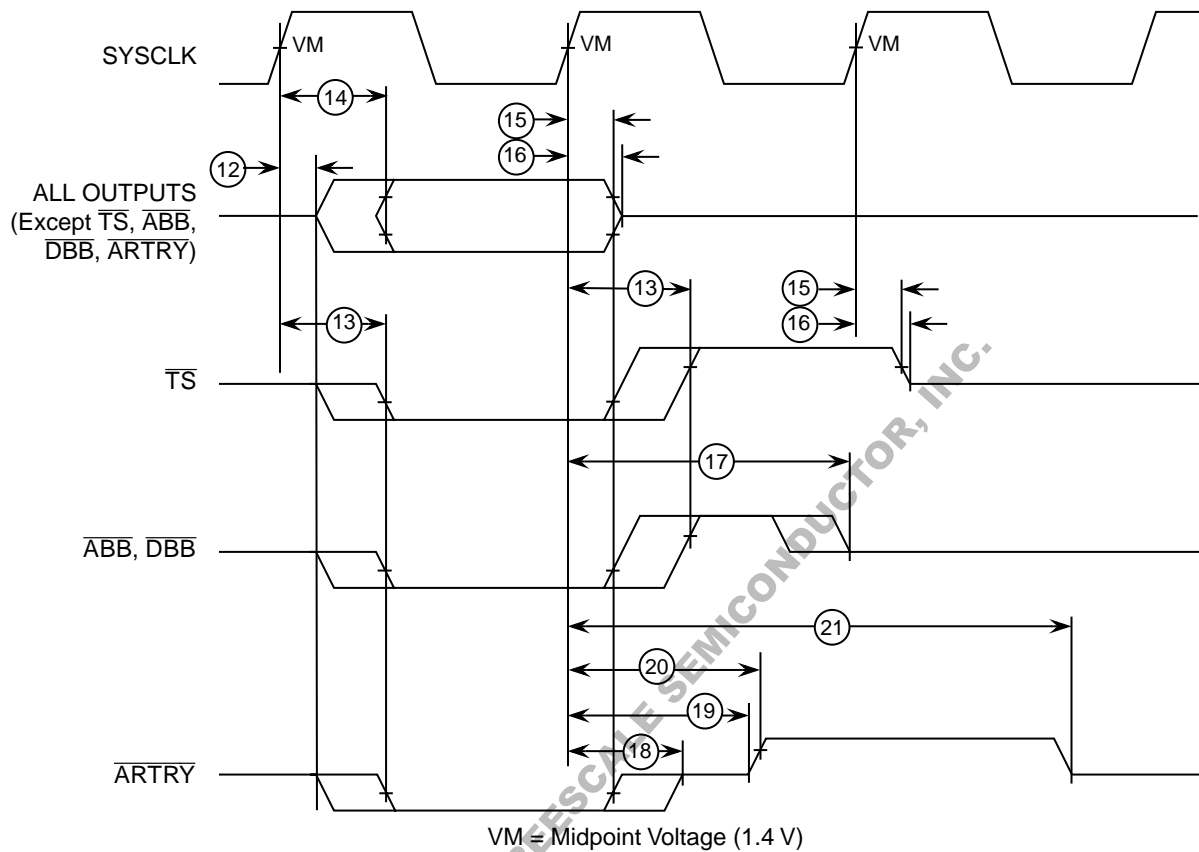

Figure 4. Output Timing Diagram
Table 9 provides the output AC timing specifications for the PID7t-603e as defined in Figure 4.
1. All output specifications are measured from the 1.4 V of the rising edge of SYSCLK to the TTL level (0.8 V or 2.0 V) of the signal in question. Both input and output timings are measured at the pin (see Figure 4).
Figure 4 provides the output timing diagram for the PID7t-603e.